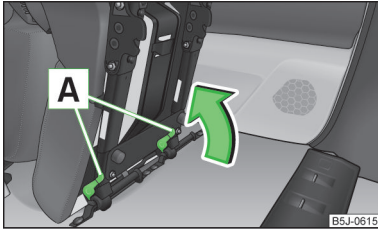

Fig. 60
- Lock the folded seat by pressing seat locks **A** » Fig. 60 in the direction of the arrow.
- If the seat has been removed, first position it on the guide and lock it in place » Fig. 60 on page 72. Pull the seat upwards to ensure that the seat is locked correctly.